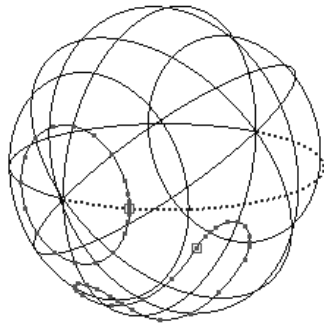

Figure 7-65 Curves-on-surface removed from top and right of the camera
17. Choose the **Yes** button from the **confirm** message box; the selected curves-on-surface are removed from the window, as shown in Figure 7-65.